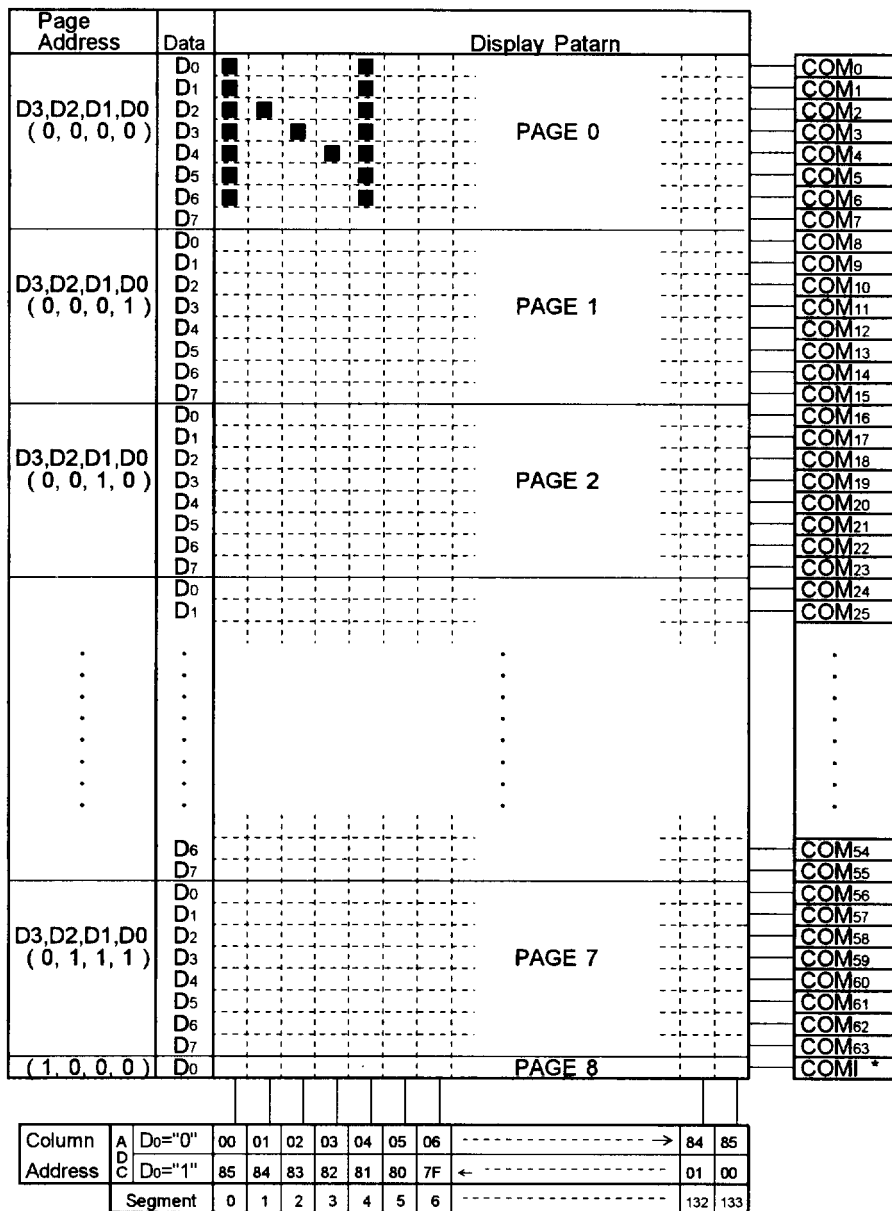

Fig.1 Correspondence with Display Data RAM and Address
The column address counter is 8-bit presentable counter which addressing the column address as shown in Fig. 1. This counter increments (+1) up to (85)_H when the Display Data Read/Write instruction is executed. The count up is stop at (85)_H, do not count up non existing address of over than (86)_H by the count lock function. This count lock is released by new column address set. Furthermore, this counter is independent with the Page Register.
This register gives page address of Display Data RAM as shown Fig. 1. When the MPU access the data by changing the page, the page address set instruction is required. Page address "8" (D₃="H" D₂, D₁, D₀="L") is Icon RAM area, the data only for the D₀ is valid.
The relation between column address and segment output can inverse by the Address Inverse Instruction ADC as shown in Fig. 1.